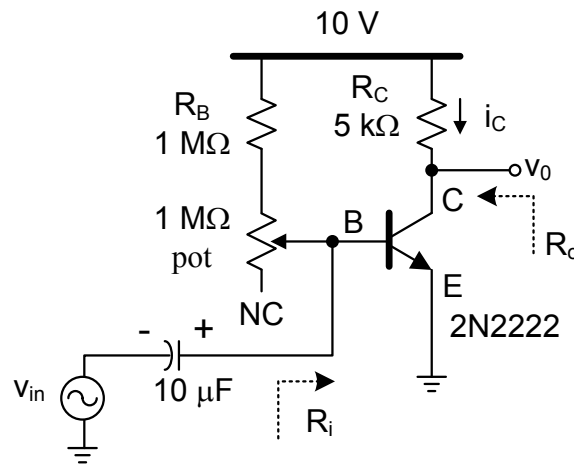

Fig. 2. BJT transistor circuit 1
1. Assume the transistor you will use has a  $\beta$  of 155 and  $V_{BE(on)} = 0.65$  V. For the circuit in Fig. 2, calculate the overall resistance ( $R_B$  and pot) such that  $I_C = 1$  mA.
5. Construct the circuit in Fig. 2 in PSpice and find the small signal parameters  $g_m$  and  $r_o$ . Compare PSpice results and calculations. Explain the differences, if any.
2. Connect the circuit in Fig. 2. The power supply is 10 V.